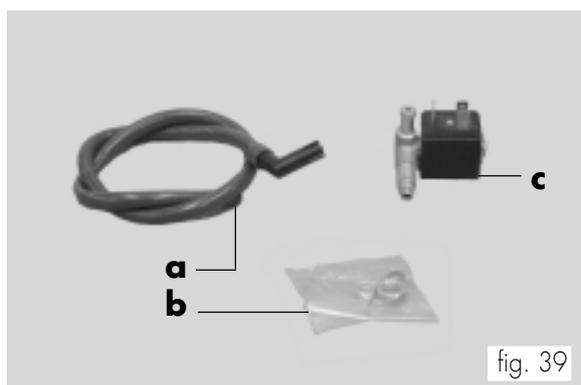
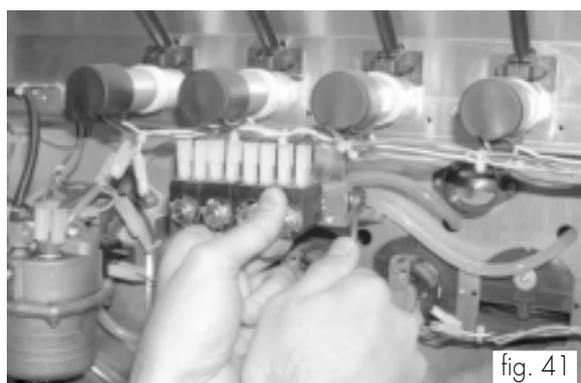
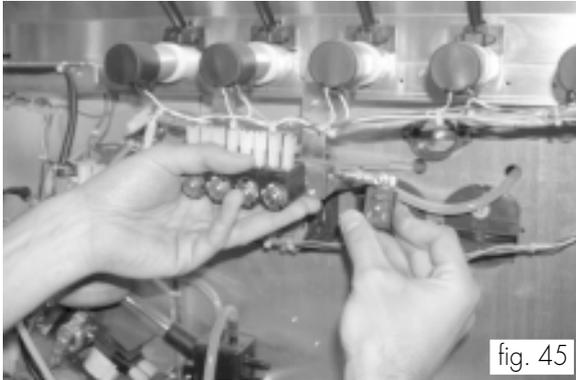
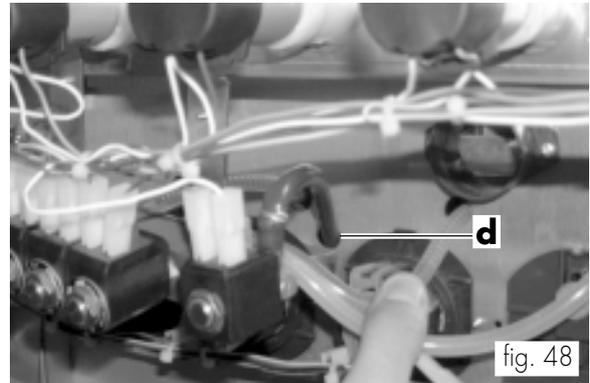

fig. 39
fig. 41
fig. 45
fig. 48
Assembly kit (fig. 39)
- Unscrew the cap inserted on the solenoid valve block (fig. 41) and hold the latter to avoid any excessive stress to the block support plate.
- Screw the nut and fix the OR (ref. b, fig. 39) on the 2-way solenoid valve (ref. c, fig. 39). Remove the block support from its seat and screw the solenoid valve in the hole (fig. 45) previously cleared from its cap (fig. 41). The solenoid valve must be placed with fastons upwards. Reinstall the block support in their seat and tighten the screws.
- Insert the pipe clamp (ref. b, fig. 39) on pipe (ref. a, fig. 39). Then, fasten the pipe (fig. 48) at the solenoid valve outlet and position the pipe retaining spring. Slide the other end of the pipe inside the assembly plate passage hole (ref. d, fig. 48).